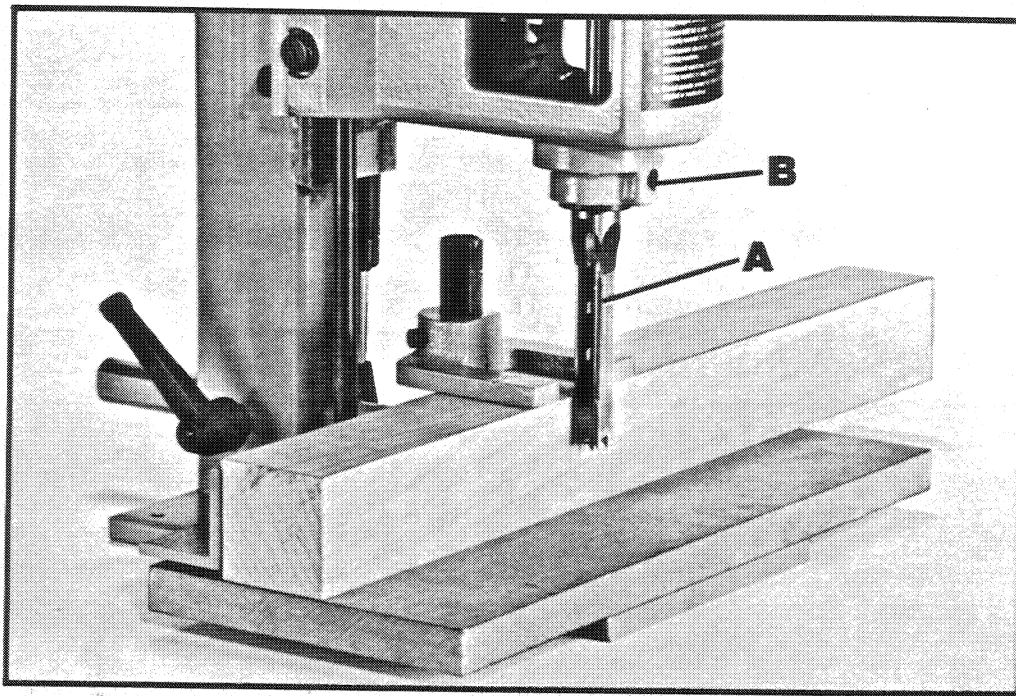

Fig. 24
The chisel (A) Fig. 24, can be adjusted parallel to the workpiece by loosening screw (B) and rotating chisel until the back surface of the chisel is touching workpiece. Then tighten screw (B).